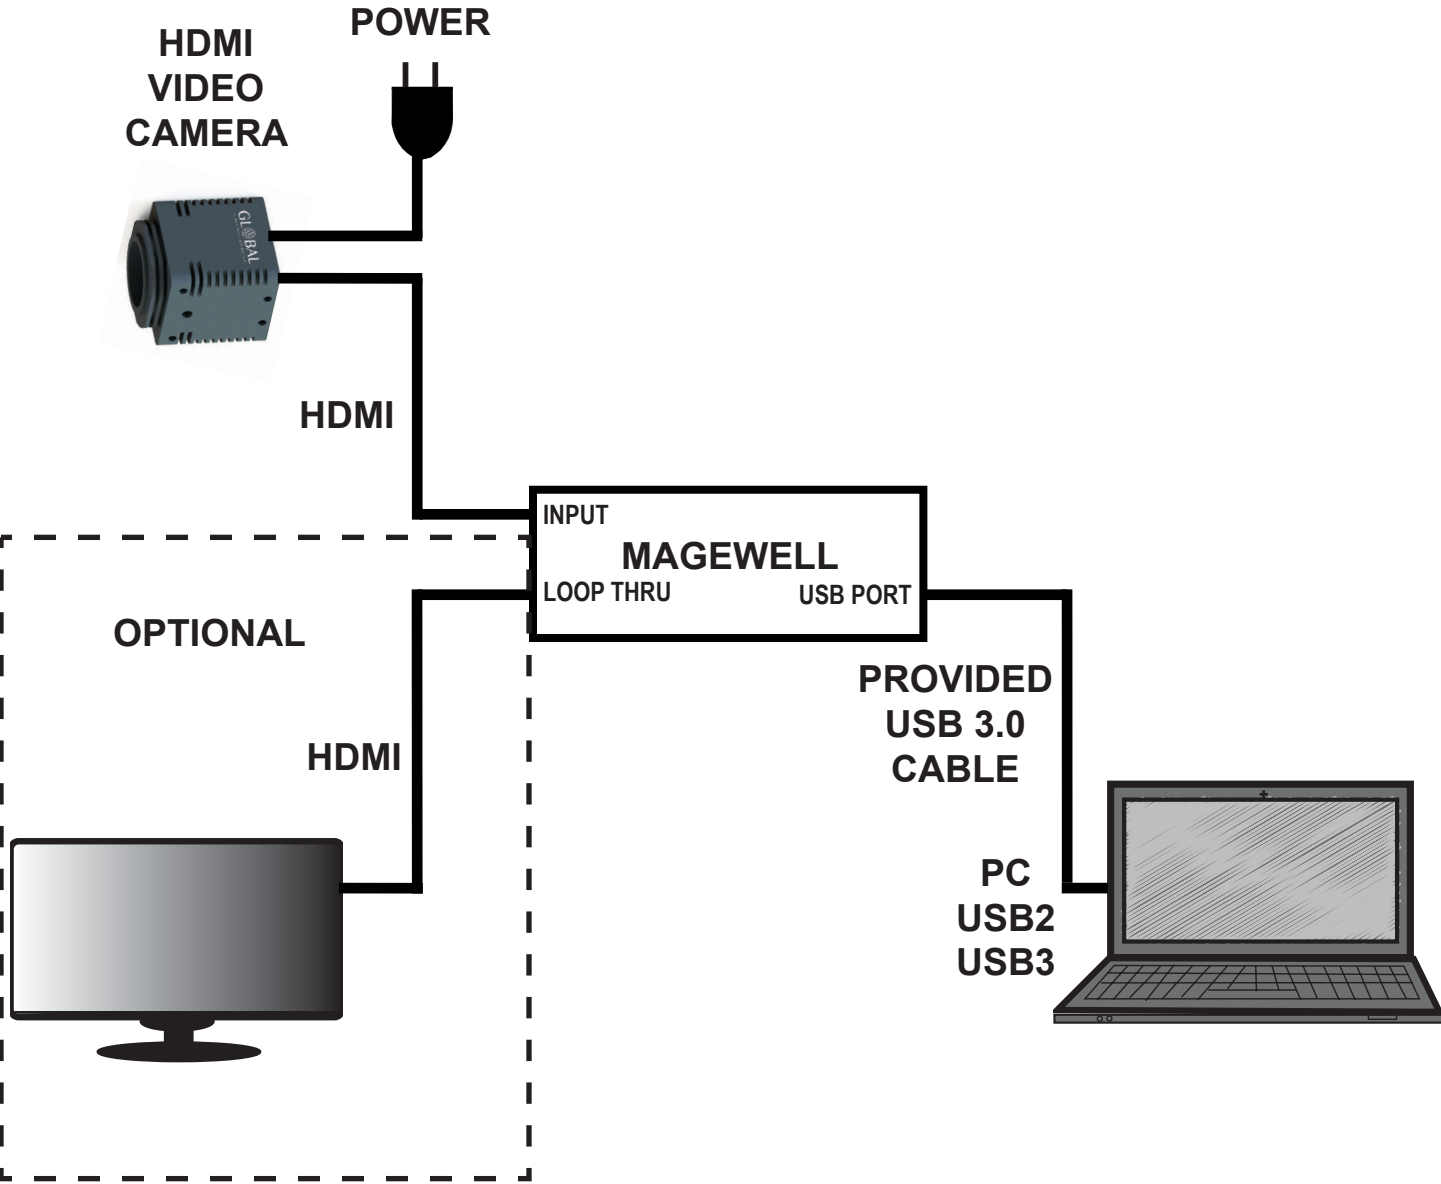
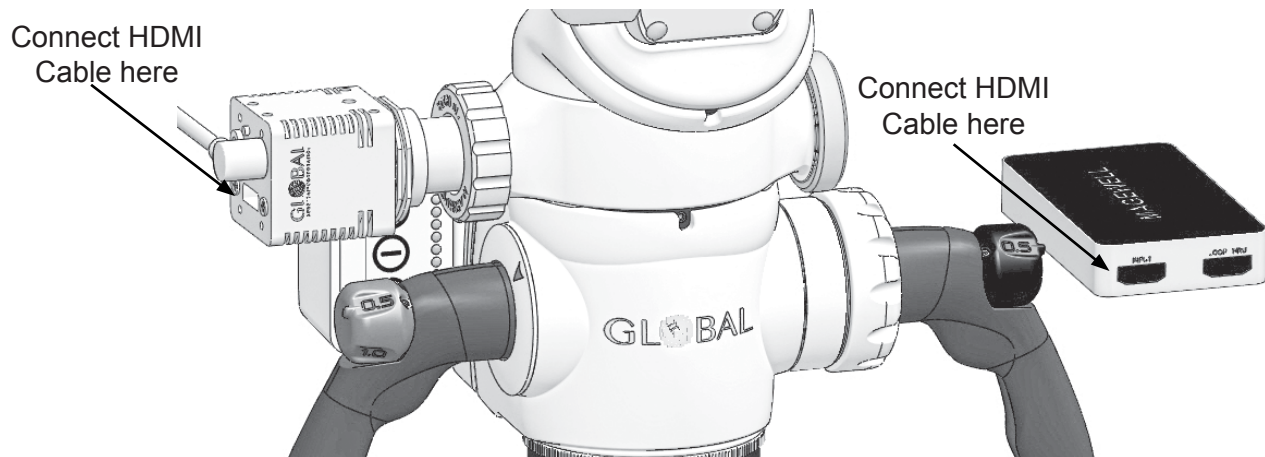
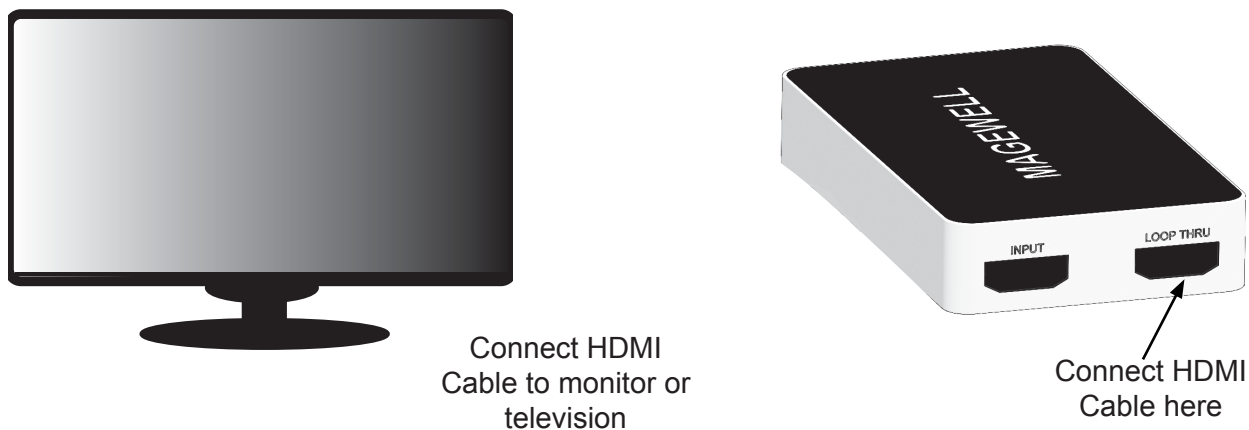

Figure 2-1 Wiring Diagram for M 528C-MAGE Setup
Figure 3-1 Connecting HDMI Cable From the Camera to the Magewell Device
Figure 3-2 Connecting HDMI Cable from Magewell Device to Monitor or Television
1. Connect the HDMI cable from the camera to the “INPUT” connector of your Magewell Device. See Figure 2-1 and Figure 3-1.
2. Connect the power cable to your HD Camera and to an AC outlet. See Figure 2-1. If your camera is battery operated, verify that the battery is charged and that the camera is powered on.
3. If applicable, connect the HDMI cable for HD televisions in the operator, to the “LOOP THRU” connector of your Magewell Device. See Figure 2-1 and Figure 3-2.